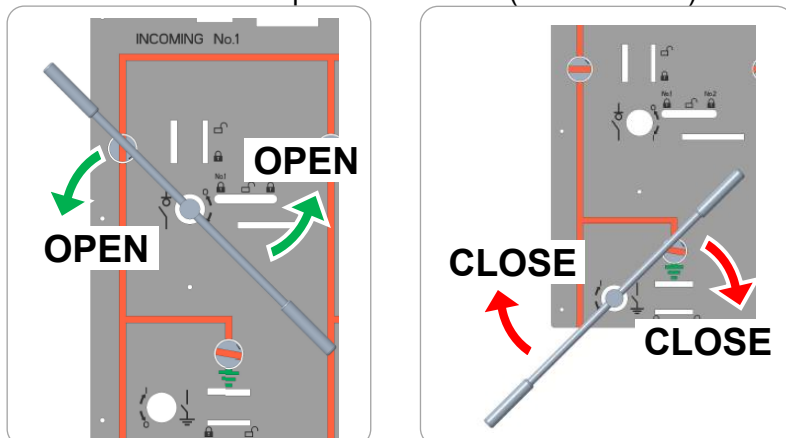

Figure 17. LBS OPEN and Earthing SW CLOSE operations of cable feeders
- ① OPEN the LBS and CLOSE the earthing SW [Figure 17 & 18] to unlock the mechanical interlocks of cable compartment covers. (for all feeders)